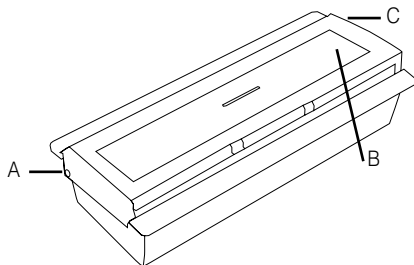

Figure 1: Doorbell-pushbutton
- Place the doorbell pushbutton in such a way on the work surface that the pivots of the transparent plastic face are at the rear (fig. 1 A and C).
- b) Using a pointed object (e.g. biro) carefully press now the small pin on the left side (fig. 1 A).
- c) Now you should be able to push up and remove the transparent plastic face (fig. 1 A).
- d) You can now open the small screw (fig. 1 B) using a small Phillips screwdriver and remove the front of the doorbell pushbutton behind which there is the PCB with the battery.
- b) Before assembling ensure that the small screw (fig. 1 B) can grip at the right spot. If required turn one part of the housing by 180°. Please make sure that the rubber gasket sits correctly within the housing.